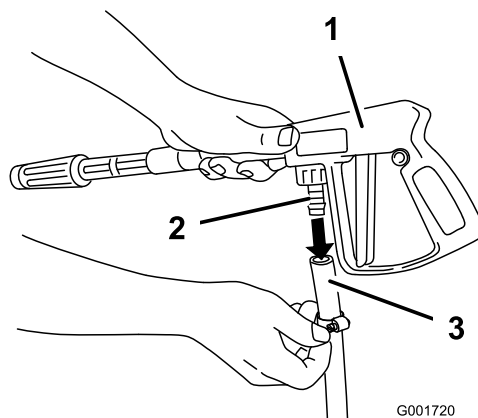

Figure 19
2. Connect the free end of the long hose to the fitting on the spray gun (Figure 19).